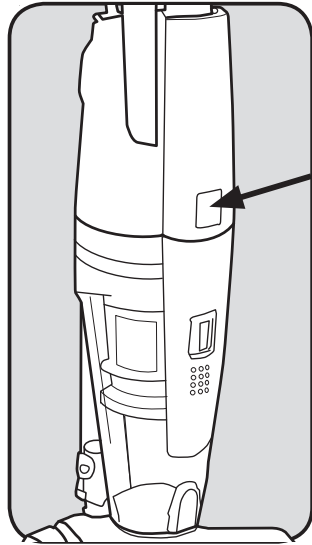

Fig. 15
2. Push the dust cup latch and lift the dust cup from the vacuum. (Fig. 15)